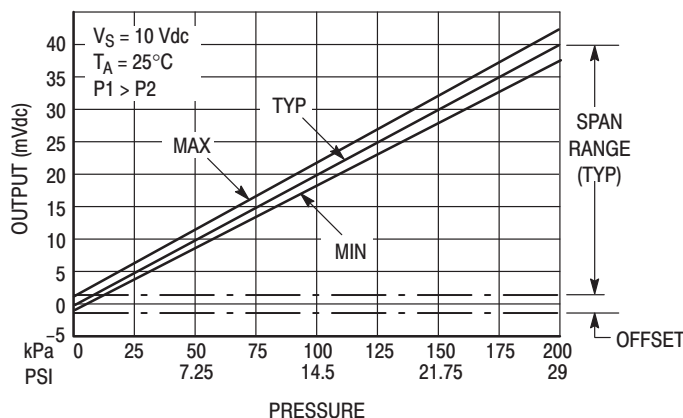

**Figure 2. Linearity Specification Comparison**
Linearity refers to how well a transducer's output follows the equation:  $V_{out} = V_{off} + \text{sensitivity} \times P$  over the operating pressure range. There are two basic methods for calculating nonlinearity: (1) end point straight line fit (see Figure 2) or (2) a least squares best line fit. While a least squares fit gives the "best case" linearity error (lower numerical value), the calculations required are burdensome.